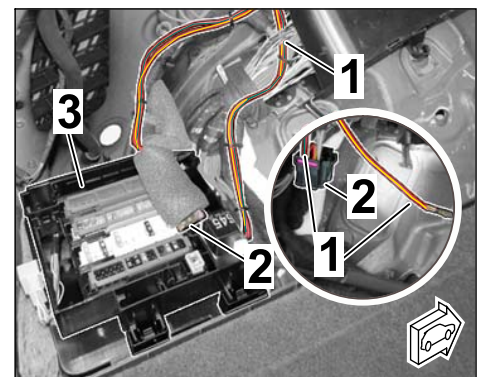

Figure 11
- 2.3.5 Route RD/GN and RD/YE lines to connector B (preparation). (⇒ *Figure 11*).
Release connector B, connect lines RD/GN and RD/YE as described in Step 2.3.2 (⇒ *Figure 11-inset-*).